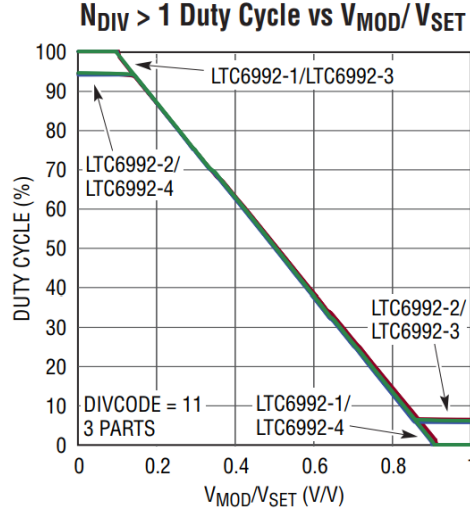

Fig. 3: Relationship between V_{mod} and duty cycle for the PWM used on the test board.
The LTC6992 pulse-width modulator's duty cycle is controlled by the voltage at V_{mod} according to the plot of Fig. 3 ($V_{set} = 1V$).
where D is the steady-state (DC) duty cycle and $A_{mod}/V_M \cdot \sin(\omega_x t)$ is the AC perturbation to the duty cycle. The frequency is the same as that of the modulation voltage and the amplitude of this perturbation is A_{mod}/V_M , where V_M is the carrier amplitude, $V_M = \partial v_{mod}(t) / \partial d(t)$, which can be read off of Fig. 3.
be the value that will give the correct duty cycle so that the converter will output 5V from an 8V input, in accordance with Fig. 3.